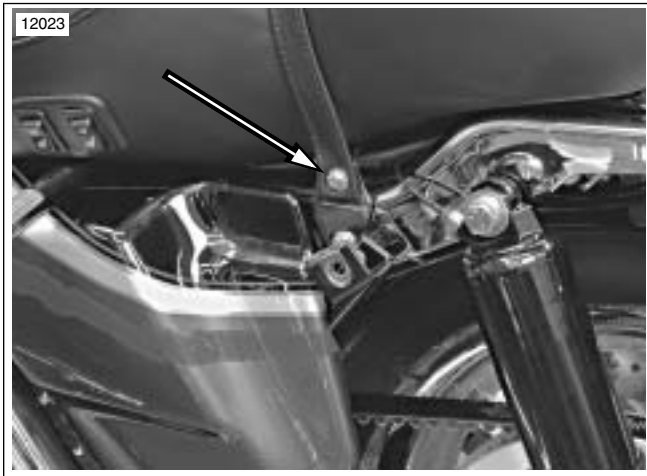

Figure 2-41. Passenger Grabstrap Fastener
3. See Figure 2-41. Remove fastener with flat washer holding one side of passenger grabstrap.
5. See Figure 2-41. Install passenger grabstrap to left saddlebag mounting bracket.